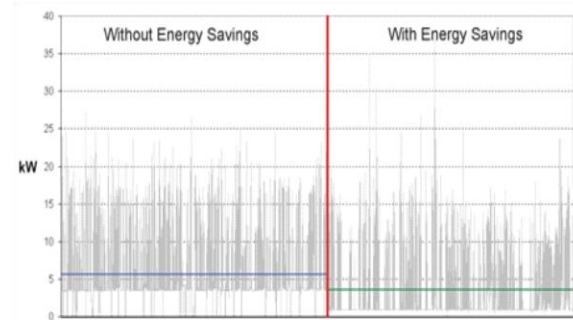

Figure 9
- The application shown in Figure 9 is a 50 HP, 460V motor operating an industrial plastic granulator.